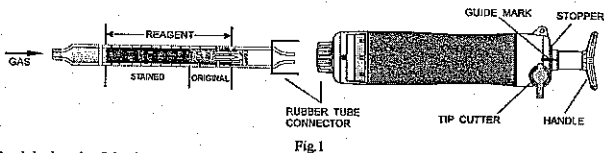

Fig.1
- ② Insert the detector tube into the aspirating pump securely as shown in Fig.1. (Arrow mark shall point to the pump.)
- ③ Align the guide marks on the shaft and stopper of the aspirating pump.
- ④ Pull the pump handle at a full stroke until it locks and wait for 1.5 minutes or until the completion of sampling is confirmed with the flow indicator of the pump (See descriptions about the flow indicator in the instruction manual of the pump).
- ⑤ Push back the handle without removing the detector tube from the rubber tube connector so that air in the pump will be discharged perfectly. Then repeat the step ③~④ once more.
- ⑥ On completion of sampling, read the scale at the maximum point of the stained layer.